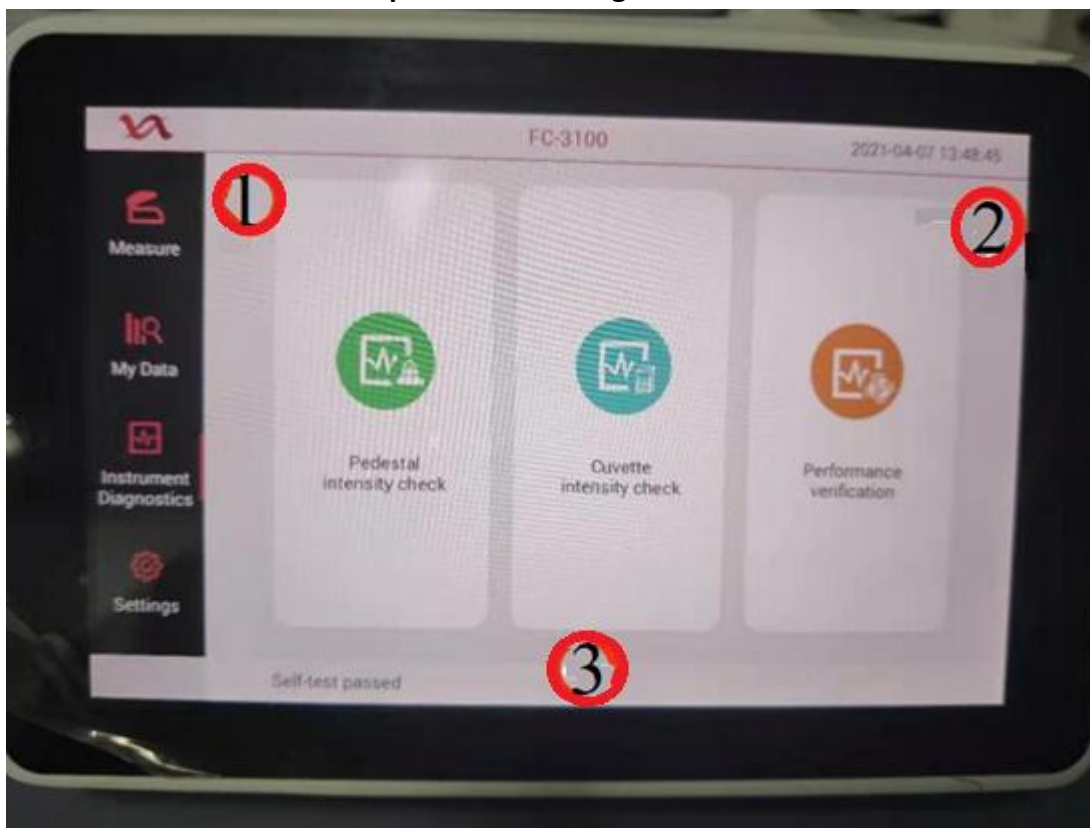

Figure.6
4. Wipe off the solution on the pedestal, go back to the Instrument Diagnostics interface. Click the three points (1,2,3) marked in the screen as Figure.6 shown to enter into the **instrument parameter setting** interface.